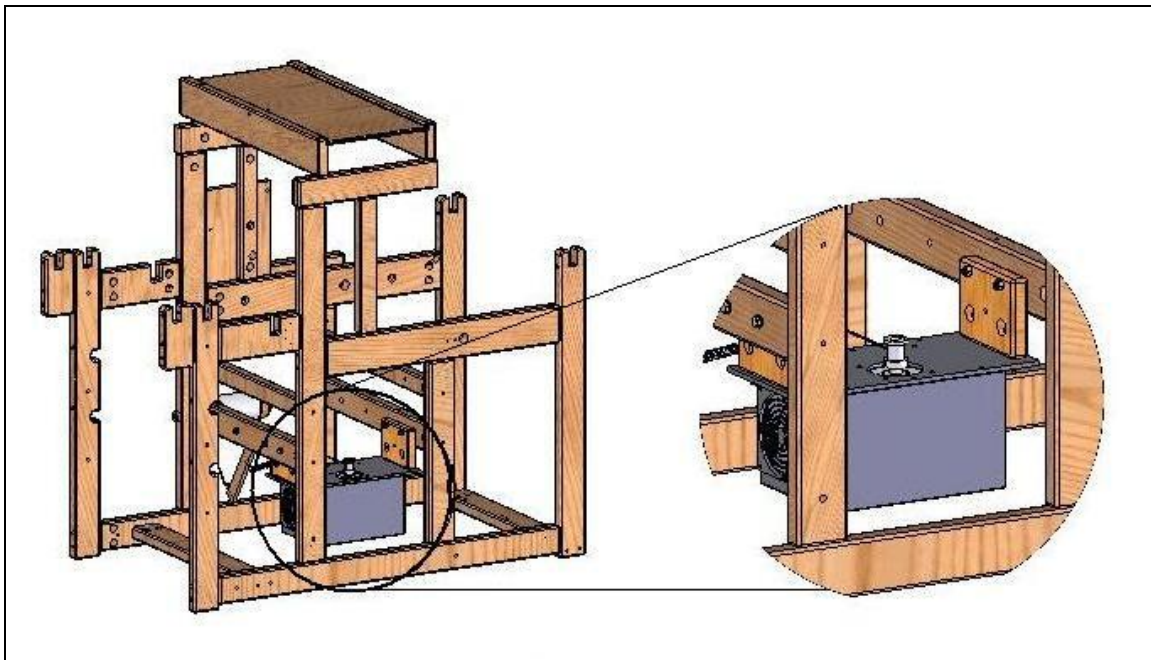

Figure 5 – Motor Box Installed
6) Install Mounting Blocks – (see Figure 5) Mount the two Blocks onto the top of the E-Lift Motor Box. Run one (1) 5/16-18 x 2” Hex Bolt, with one (1) 5/16 Split Lock Washer, up through the flange on the top ends of the Box, into the pre-drilled holes located at the narrow, bottom end of each Block. Tighten by holding one (1) 5/16 Square Nut in place, with the flat side down, through the lateral hole provided for access. Note: the angular corners of the Square Nut will need to bind down, into the wood.
1) Install the E-Lift II Motor Box - (see Figure 5) Position the Box underneath and between the two Crossmembers. Insert the four (4) 5/16-18 x 2-3/4" Hex Bolts, with washers, from the outside, into the previously drilled Holes #2 and #3, just far enough to keep them from falling out, while not protruding into the central area. Position the Box in the space between the Crossmembers, so that the Plug Connection for the Pedal faces to the Front and the Motor Box Pulley is closest to the Left Side of the loom. Lift the Box into place and push the Mounting Block Bolts all the way through the Blocks and tighten in place with one (1) 5/16 Washer and one (1) 5/16 Nylock on each Bolt.